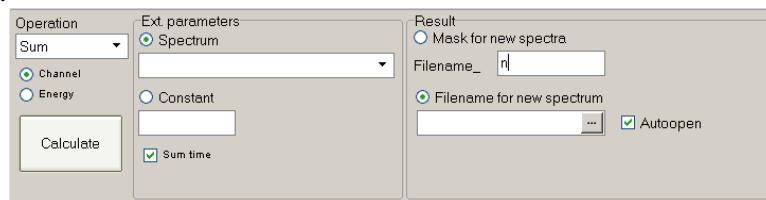

Figure 55. **Math. operations** tab content
The **Math. operations** tab consists of 3 blocks (Fig.55) and is intended for summing and subtracting spectra.
- select '**Sum**' in the dropdown list of the **Operation** field (Fig.55);
- in the **Ext.parameters** block, select **Spectrum** as shown on Fig. 55, the field with the dropdown list should be empty;
- in the **Ext.parameters** block select **Spectrum** as shown on Fig. 55;